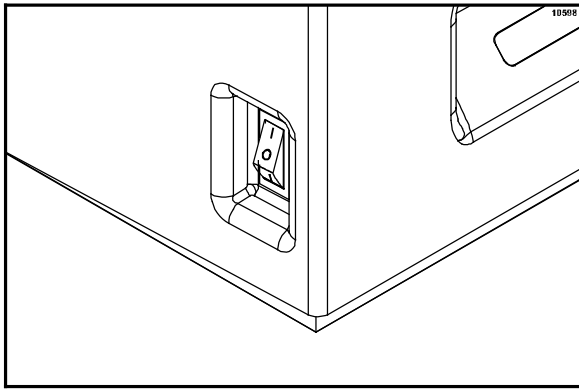

Figure 35
15. Leave the power switch in the ON position overnight. (See Figure 35.)